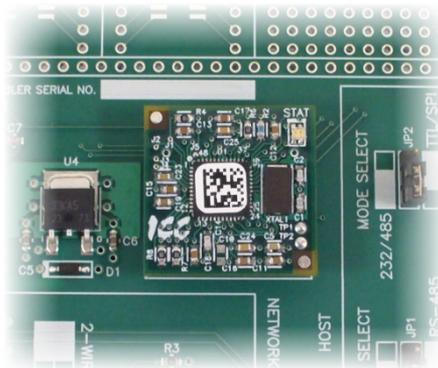
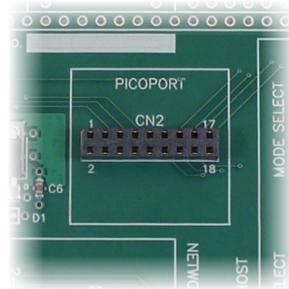

Figure 2: PicoPort Module Correctly Installed
Figure 3: PicoPort Connector
Step 2: Install the PicoPort module into connector CN2 on the development board. Pay particular attention to the module's orientation in the connector, as there is no keying on CN2 to prevent incorrect insertion. When installed properly, the "STAT" LED will be in the upper-right hand corner (refer to Figure 2).
The PicoPort connector (CN2) accommodates a PicoPort module (refer to Figure 3). When installing the module, pay particular attention to the module's orientation in the connector, as there is no keying on CN2 to prevent incorrect insertion. When installed properly, the "STAT" LED will be in the upper-right hand corner (refer to Figure 2 on page 6).